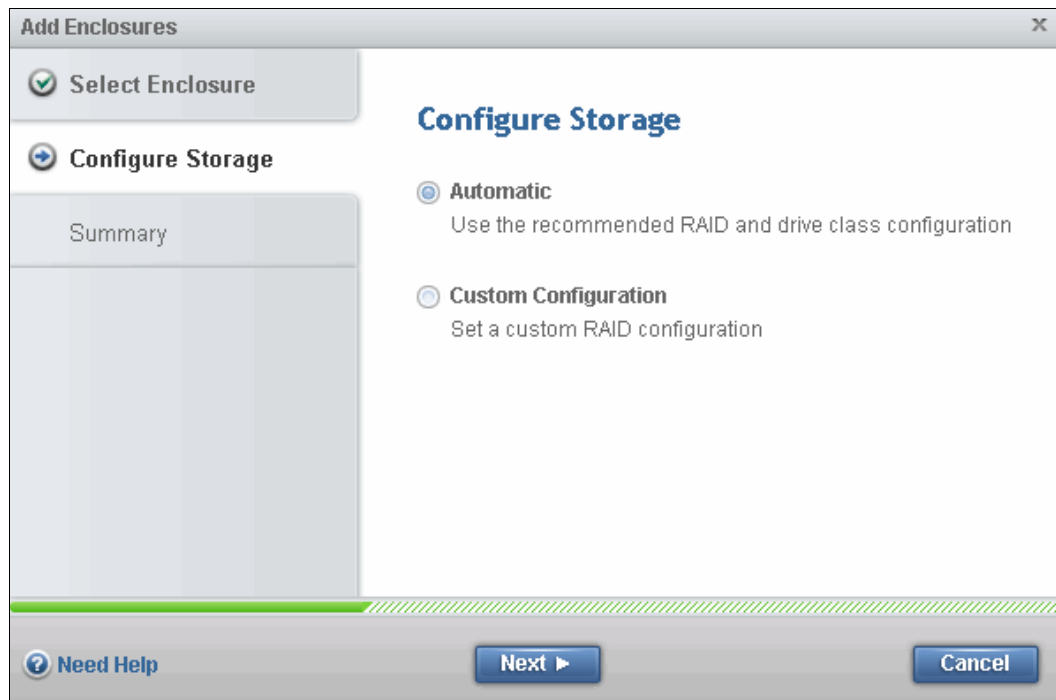

Figure 2-36 The new enclosure as part of the cluster
5. As described in step 3 on page 60, you are prompted to configure the new storage as shown in Figure 2-36.